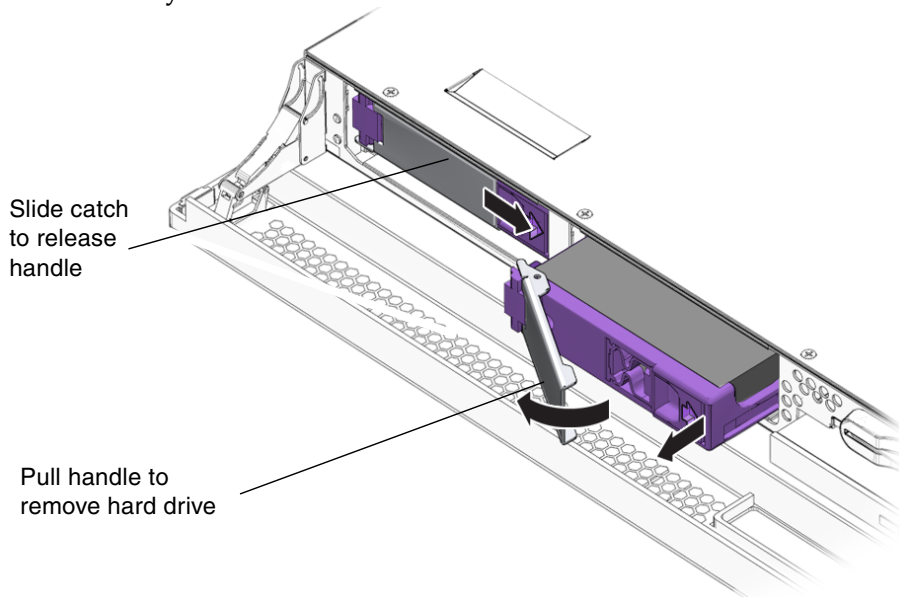

FIGURE 1-7 Removing a Hard Drive
4. **Slide the catch at the front of the hard drive to the right (FIGURE 1-7).**